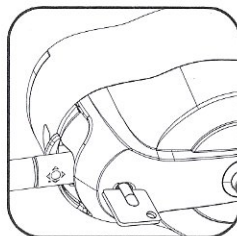

Figure 1
1. Insert the Pürleve key into cover lock, turn (either direction) and open cover. (Fig. 1)